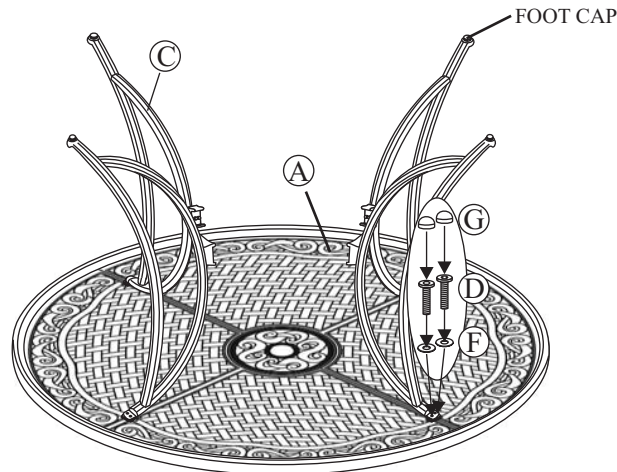

Fig.1
Step 2: Place the table top upside down on a flat, non-abrasive surface. Attach the table leg to the table top by using the bolts and washers as shown in the **Fig.1**. Guide the bolts through the holes in the table leg, and into the pre-drilled holes in the table top. **Hand tighten only.** Repeat for the other three legs.